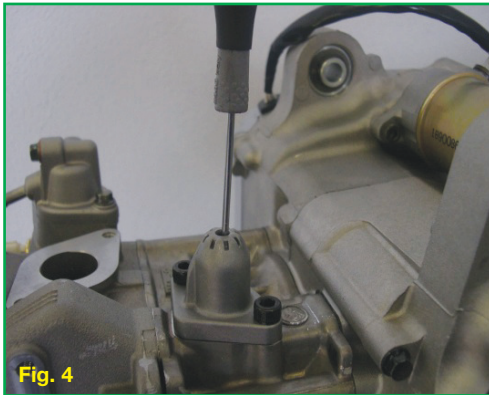

Fig. 4
- Remove the chain tensioner cap and tighten the screw fully home (Fig. 4).